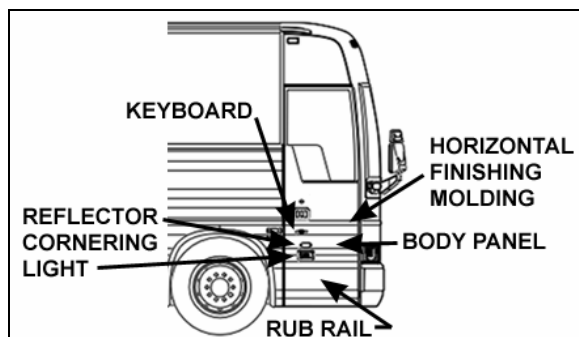

FIGURE 13: ENTRANCE DOOR BODY PANEL
- At the top of windshield, clean surface between fiberglass and rubber extrusion using Sika 205 (Fig. 13).